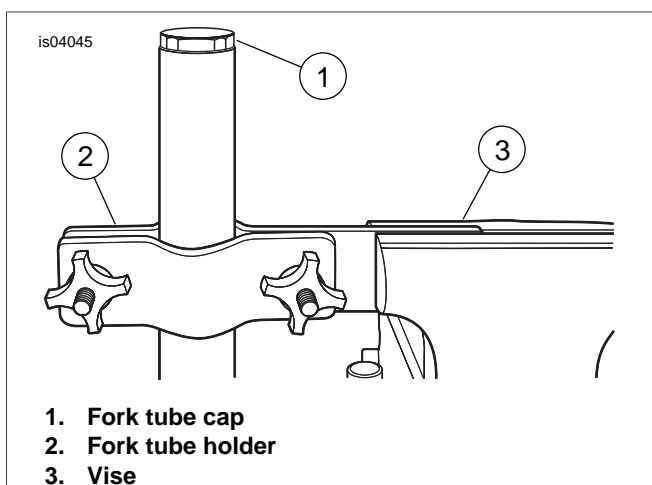

Figure 3. Install Fork Tube into Holder
1. See Figure 3. Obtain FORK TUBE HOLDER (Part Number HD-41177) and proceed as follows:
3. See Figure 3. Carefully remove fork tube cap (1) and o-ring from fork tube. Be aware that fork tube plug is under spring pressure, so have a firm grasp on plug as the last thread is turned.